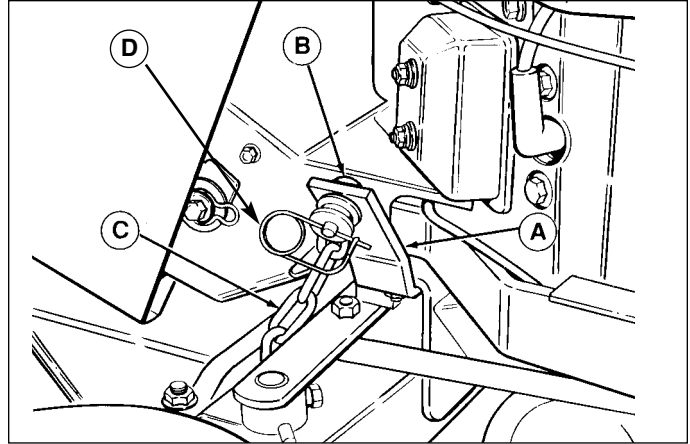

Figure 16. Spring Assist Bracket Assembly
NOTE: Spring-assist bracket assembly (Figure 16) does not need to be installed on units with electric/hydraulic lift.
1. Install the spring-assist bracket (A, Figure 16) to tractor frame (bracket is mounted underneath frame). Secure with capscrew (from top), lockwasher, and nut. Place clevis pin (B) through bracket and install flat washer, chain (C), second flat washer, and safety clip (D).
3. Connect the other end of the assist spring to the 6-link chain (C, Figure 16).